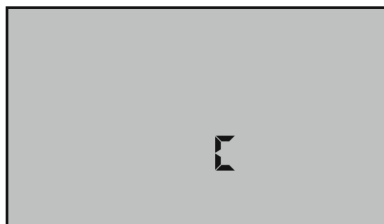

Figure 15
3. Press  repeatedly until you pass the “US” or “Int” date format location. The display will show a “C” or “F” (see Figures 15 and 16).